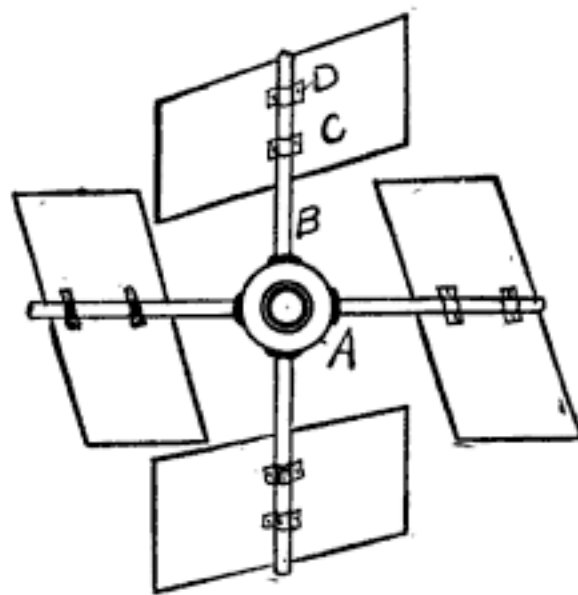
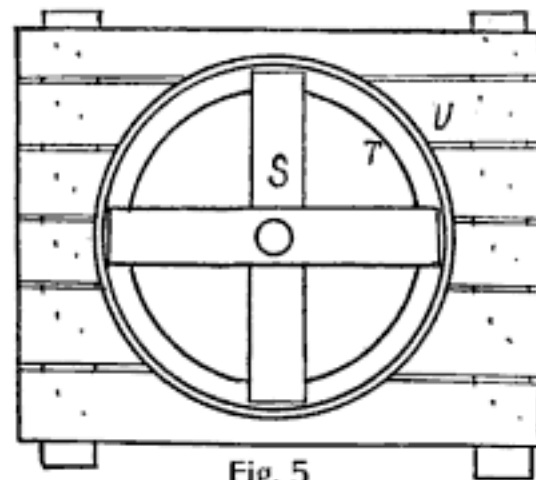

Fig. 1
Fig. 5
The hub for the revolving fan wheel is first constructed. One good way to get both the hub, lining, shaft and spokes for the blades, is to go to a wheelwright's and purchase the wheel and axle of some old rig. There are always a number of discarded carriages, wagons or parts thereof in the rear of the average blacksmith's shop. Sometimes for half a dollar and often for nothing, you can get a wheel, an axle, and connected parts. Remove from the wheel, all but the four spokes needed for the fans as in Fig. 1. The same hub, axle and bearings will do. In case you cannot secure a wheel and shaft, the hub may be made from a piece of hardwood, about 4 in. in diameter and 6 in. long. A 2-in. hole should be bored through for a wooden shaft, or a 1½-in. hole for a metal shaft. The hub may be secured by putting two or three metal pins through hub and shaft. Adjust the spokes by boring holes for them and arrange them so that they extend from the center A, like B. The wheel is then ready for the blades. These blades should be of sheet metal or thin hardwood. The sizes may vary according to the capacity of the wheel and amount of room for the blades on the spokes. Each one is tilted so as to receive the force of the wind at an angle, which adjustment causes the wheel to revolve when the wind pressure is strong enough. Secure the blades to the spokes by using little metal cleats, C and D. Bend these metal strips to suit the form of the spokes and flatten against the blades and then insert the screws to fasten the cleats to the wood. If sheet metal blades are used, rivets should be used for fastening them.
The stand for the wheel shaft is shown in Fig. 2. Arrange the base piece in platform order, (J). This is more fully shown in Fig. 5. On top of this base piece, which is about 36 in. long, place the seat or ring for the revolving table. The circular seat is indicated at I, Fig. 1. This ring is like an inverted cheese box cover with the
show in this sketch, but in Fig. 5, where it is marked S. This part is made of two pieces of 2-in. plank, about 3 in. wide, arranged so that the two pieces cross to make a letter X. When the pieces join, mortise them one into the other so as to secure a good joint. Adjust the uprights for sustaining the wheel shaft to the X-pieces as shown at E, E, Fig. 2. These are 4x4-in. pieces of wood, hard pine preferred, planed and securely set up in the X-pieces by mortising into the same. Make the bearings for the wheel shaft in the uprights and insert the shaft.
of fastening a gear, R, to the shaft. The set screws enter the hub from the two sides and the points are pressed upon the shaft, thus holding the gear firmly in place. The platform for the entire wheel device is shown in Fig. 5. The X-piece S is bored through in the middle and the upright shaft passes through. The tin run-way or ring is marked T, and the X-piece very readily revolves in this ring, whenever the wind alters and causes the wheel's position to change. The ring and ring base are secured to the platform, U. The latter is made of boards nailed to the timbers of the staging for supporting the mill. This staging is shown in Fig. 6, in a sectional view. The ring with its X-piece is marked V, the X-piece is marked W, and the base for the part, and the top of the stage is marked X. The stage is made of 2x4-in. stock. The height may